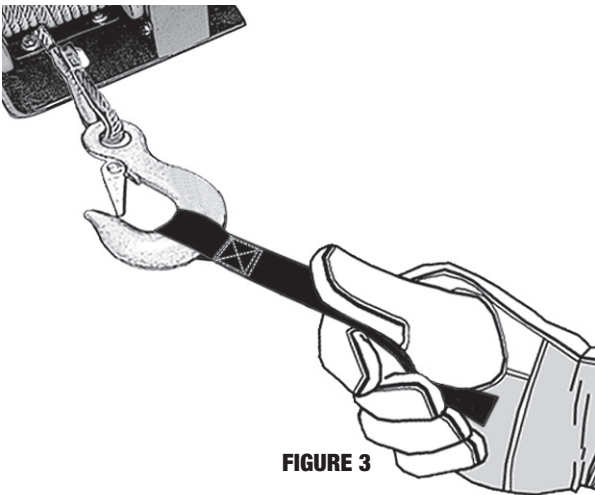

FIGURE 3
ALWAYS WEAR SAFETY GLASSES, LEATHER GLOVES AND USE THE HAND SAVER STRAP (FIGURE 3).
- 1. KEEP A TIGHTLY WOUND WIRE ROPE DRUM.** Keep the wire rope tightly and evenly wound on the drum all the time. Do not allow the wire rope to become loosely wound. A loosely wound drum allows a wire rope under load to work its way down into the layers of wire rope on the drum. When this happens, the wire rope may become wedged within the body of the windings damaging the wire rope. A good practice is to rewind the wire rope under tension after each use. Apply tension using hand saver strap (**FIGURE 3**) and ALWAYS wear gloves.